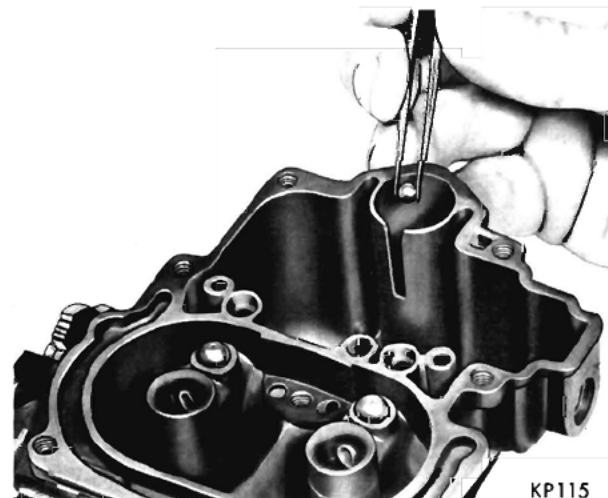

Fig. 10—Installing Accelerator Pump Check Ball
(6) Install the accelerator pump inlet check ball ( $3/16$  inch diameter) in the check ball seat at the bottom of the pump cylinder, as shown in (Fig. 10).